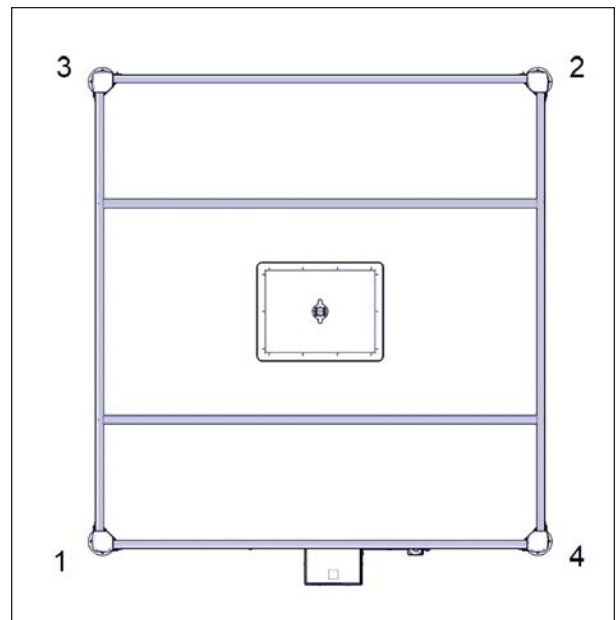

FIGURE 46: INSTALLATION PATTERN FOR THE OUTER CORNER BRACKETS
26. Install the outside corner brackets following the installation sequence shown in Figure 46. The first bracket goes to corner number 1 and so on.